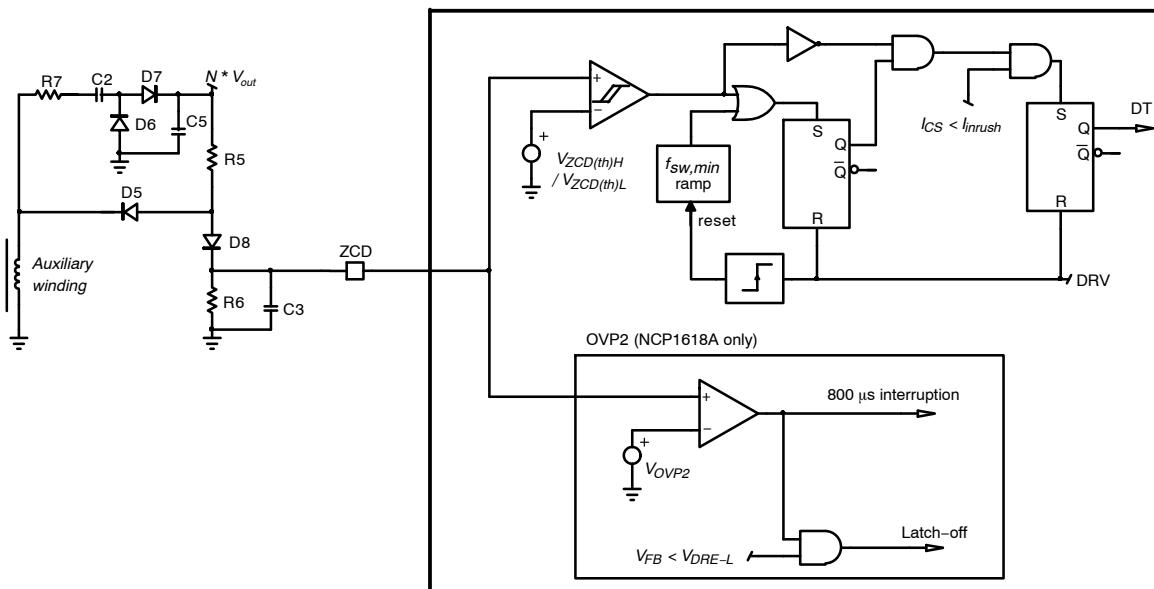

Figure 10. Zero Current Detection Block
Application note AND90011 discusses recommended circuitries for an accurate ZCD and OVP2 detections. Figure 10 provides one of these circuitries. In this circuit, R_7 being small, capacitor C_2 is charged to
Figure 10 shows how the NCP1618 detects the valley.
- The ZCD pin impedance (for instance R_3 of Figure 10), must be higher than 7.5 kΩ not to trigger the ZCD pin short-to ground protection.
If no ZCD can be detected when the circuit operates in FCCrM mode, the circuit cannot use the valley detection to start a new current cycle. In this case, the next DRV pulse is forced by the DCM minimum frequency ramp ($f_{sw,min}$ ramp of Figure 10) which acts as a watchdog.
- If the pin is grounded, no falling edge of the auxiliary winding can be detected. The DRV remains off until the DCM minimum frequency ramp initiates a new cycle. Before the new pulse is generated, the circuit senses the pin impedance by sourcing 250 μA. No DRV pulses are generated until the pin voltage exceeds V_{ZCDH} . Hence, the part is inhibited when the pin is grounded. Not to trigger this protection, the pin impedance (for instance R_3 of Figure 10. must be higher than 7.5 kΩ).